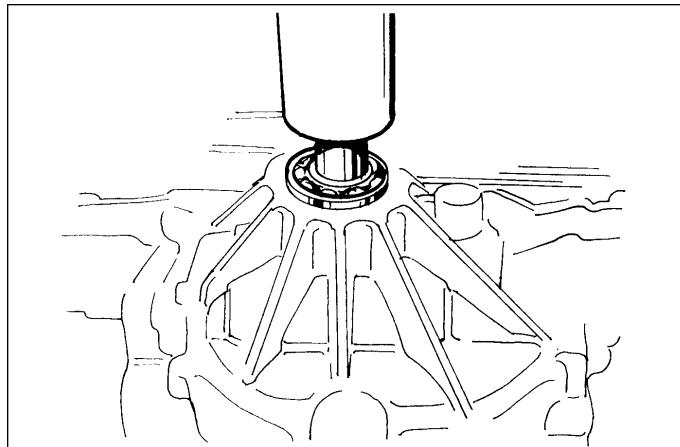

Figure D-27. Install Pump Shaft Assembly
2. Install the pump input shaft assembly and retaining ring into the housing. See Figure D-27.